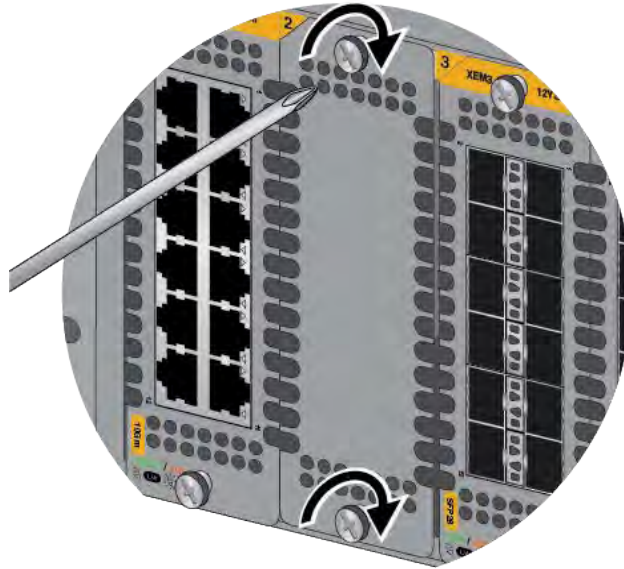

Figure 47. Tightening the Captive Screws on an XEM3 Module Slot Panel
2. Tighten the two captive screws on the slot panel with a #2 Phillips-head screwdriver to secure it in the switch. Refer to Figure 47.